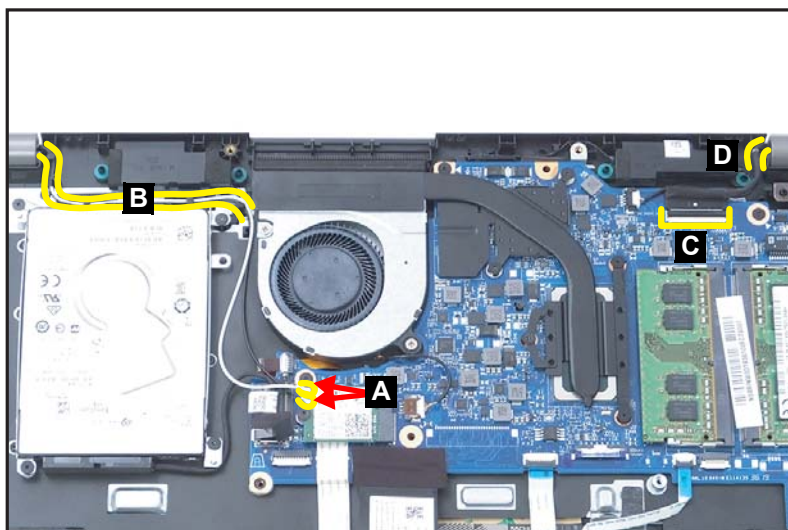

Figure 1-28. LCD Module Removal
1. Disconnect the WLAN antennas from the WLAN module connectors (A) (Figure 1-28).
2. Remove the WLAN antennas (B) from the cable guides as shown in Figure 1-28.
3. Disconnect the eDP cable from the mainboard connector (C) (Figure 1-28).
4. Remove the eDP cable (D) from the cable guides as shown in Figure 1-28.